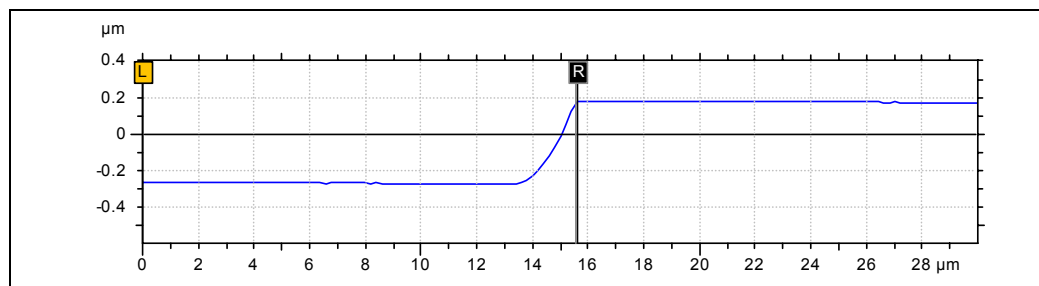

Figure 6.5: Evaluating the semi-width of the trench measured in one direction
3. Measure the groove in one direction and evaluate the width from the beginning of the trace to the rising edge (Figure 6.5).